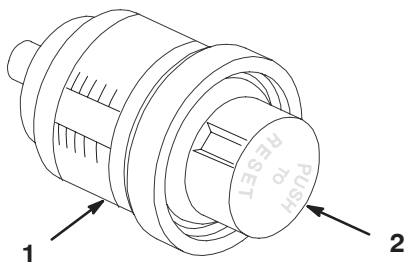

Figure 59
2. Reset the gauge by depressing the button in the bottom of the canister until the plunger returns to the lowest point (Fig. 59).